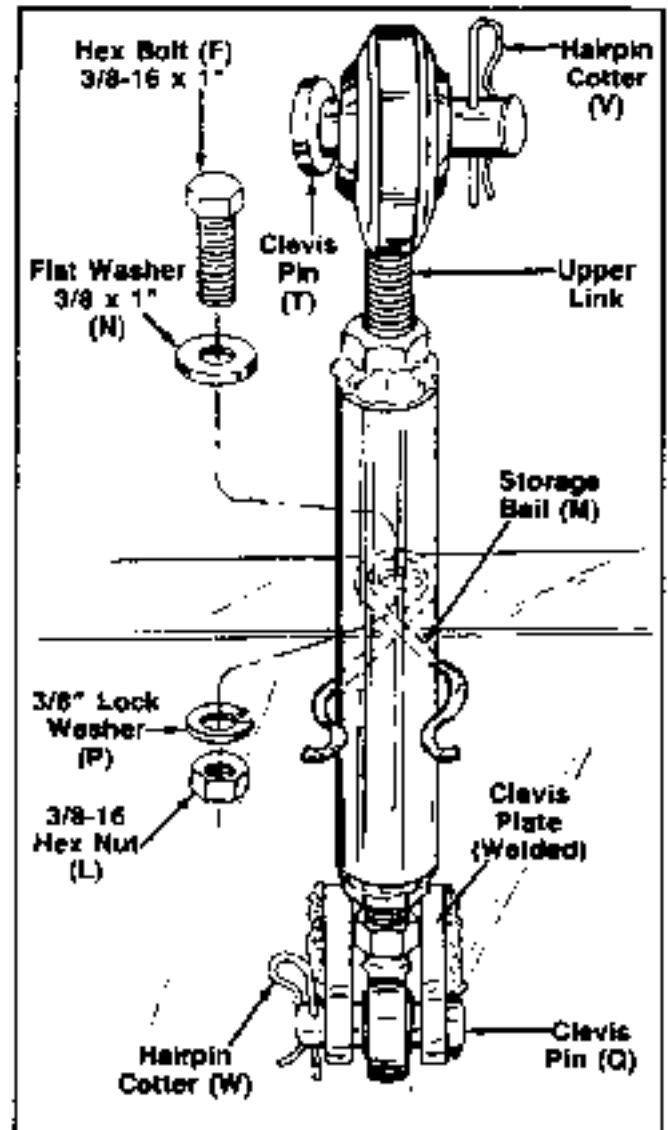

FIGURE 37.
48. Attach upper link storage bail to draw bar support plate. Use $3/8"$ x $1"$ bolt (F), flat washer (N), lock washer (P) and hex nut (L). See figure 37.
49. Attach upper link to draw bar support plate at the upper link clevis plate. See figure 37. Secure with clevis pin (Q) and hairpin cotter (W).
51. Install clevis pin (T) and hairpin cotter (V) as shown in figure 37. to be used with attachments
The upper link is adjustable to provide a way to level an implement. Turn upper link ball counterclockwise to shorten the link or clockwise to lengthen the link. When the hitch is not in use the upper link should be placed in the storage bail. See figure 37.